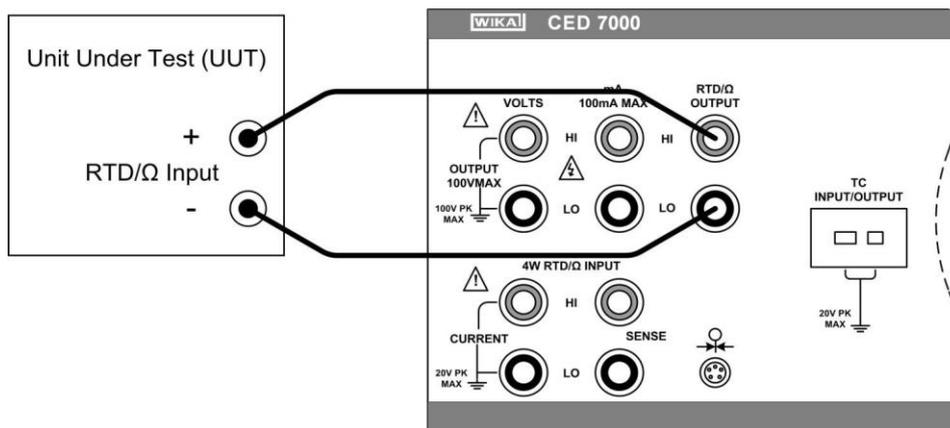

Figure 13 - RTD/Ω Output Connection
- e) Connect the unit under test to the RTD/Ω output terminals of the CED 7000 as shown in figure 13.